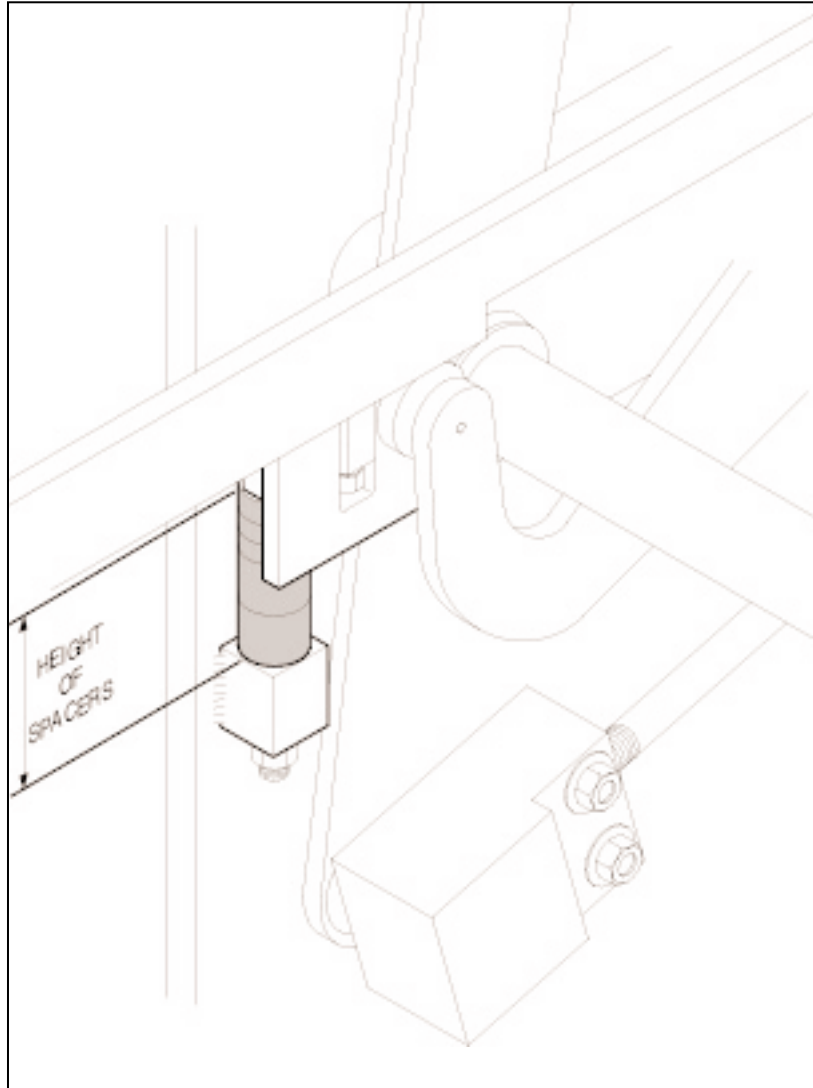

Figure 4.26 MEASURING COLUMN OF SPACERS
- 4.2.17 Measure the column of spacers supporting the pallet feeder assembly: if column is **222mm [8.75"]** high, go to step 4.2.27. If not, go to step 4.2.18 (see figure 4.26).